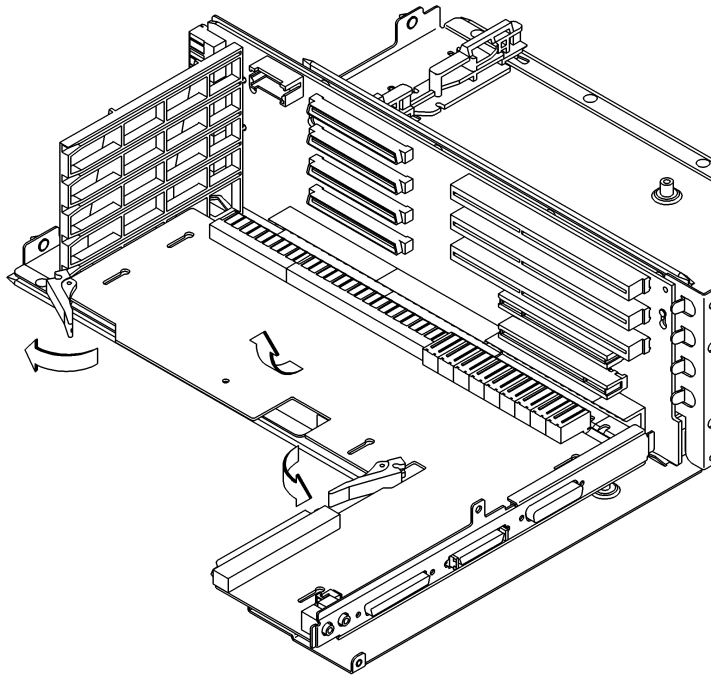

Figure 56 **Removing the I/O Board**
- 1 Pull the ejector handles, as shown in Figure 56.